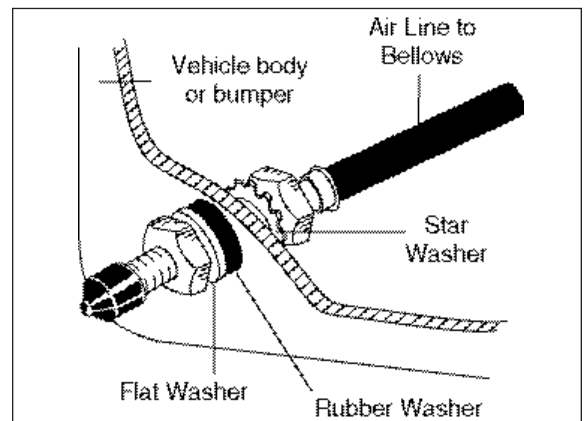

Figure 6
7. Use a standard tube cutter or razor blade to cut the air line into two equal lengths. A clean square cut will ensure against leaks. Drill a 5/16" hole for the inflation valve and mount as illustrated. The outer rubber washer is used as a weather seal (Figure 6).